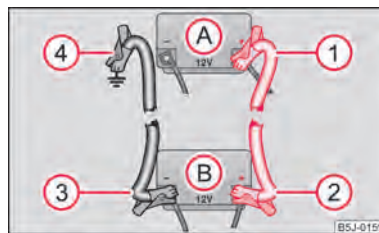

Fig. 147 Jump-starting using the battery from another vehicle: A - flat vehicle battery, B - battery providing current
- Attach one end (1) to the positive terminal ⇒ fig. 147 of the discharged battery (A).
- Attach the other end (2) to the positive terminal of the battery supplying the power (B).